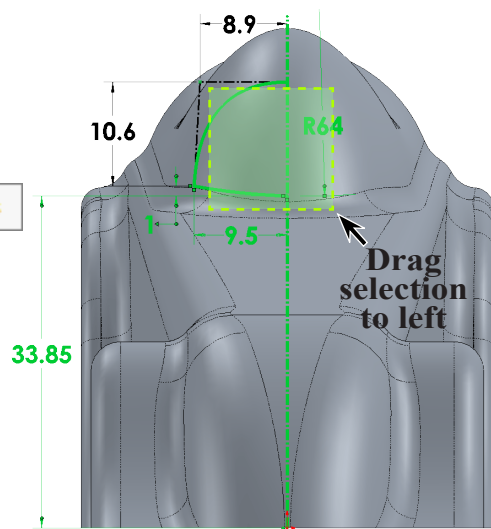

Fig. 132
Step 16. **Drag a “trend to left - more liberal” selection across all geometry, Fig. 132.**